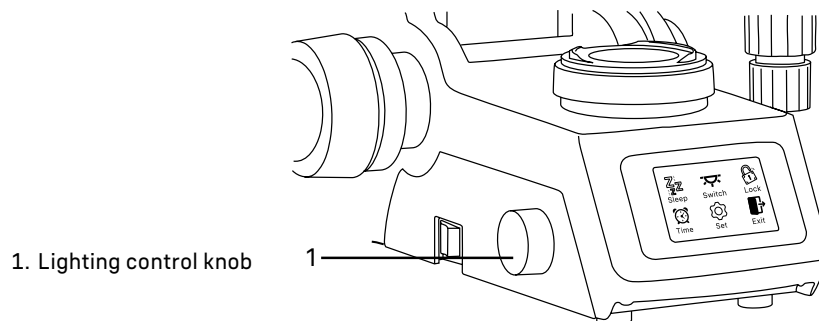

Fig. 7. Intelligent lighting control
To enter the function setting interface, press and hold the lighting control knob 1 (Fig. 7) for 3 seconds. Rotate the knob to switch functions. Press the knob to select the desired function. Please note, the microscope operates in transmitted light, so before making adjustments you must select the icon , which means illumination from below.
To set the time for the Sleep mode, press and hold the knob 1 (Fig. 7) for 3 seconds. The minute indicator will start blinking. Rotate the knob to increase/decrease the time. You can set up the time from 1 minute upwards. The maximum time is 8 hours.
- press the knob 1 (Fig. 7) to enter the position setting for this objective